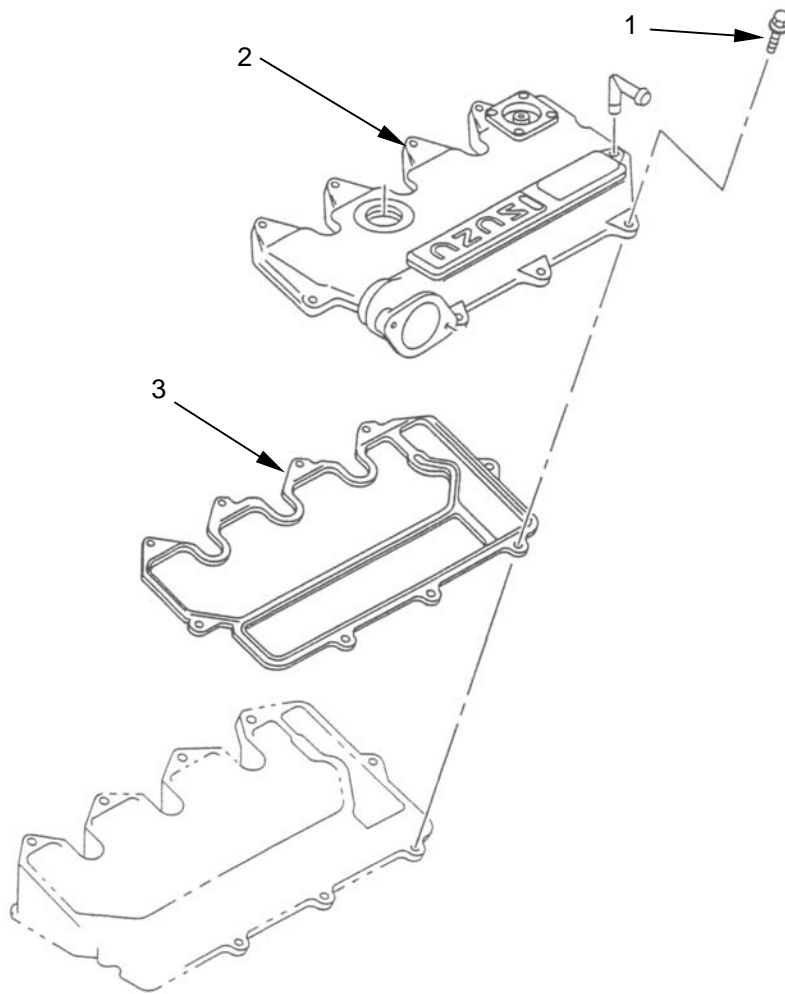

Figure 4. Cylinder Head Cover
- a. Loosen and remove cylinder head cover mounting bolts (**figure 4, item 1**) (quantity 9).
- b. Remove cylinder head cover (**figure 4, item 2**).
- c. Remove cylinder head cover gasket (**figure 4, item 3**). If gasket remains on seating surface, gently remove with a non-metallic tool.